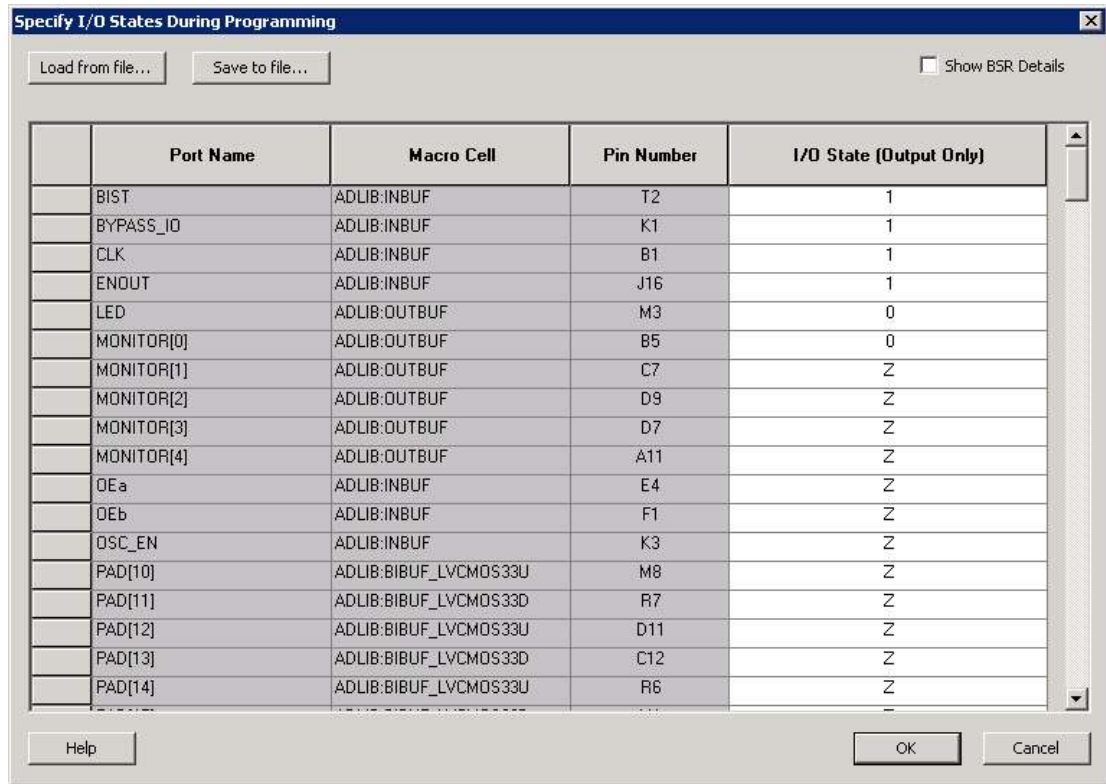

Figure 1-1 • I/O States During Programming Window
4. Sort the pins as desired by clicking any of the column headers to sort the entries by that header. Select the I/Os you wish to modify (Figure 1-1 on page 1-4).